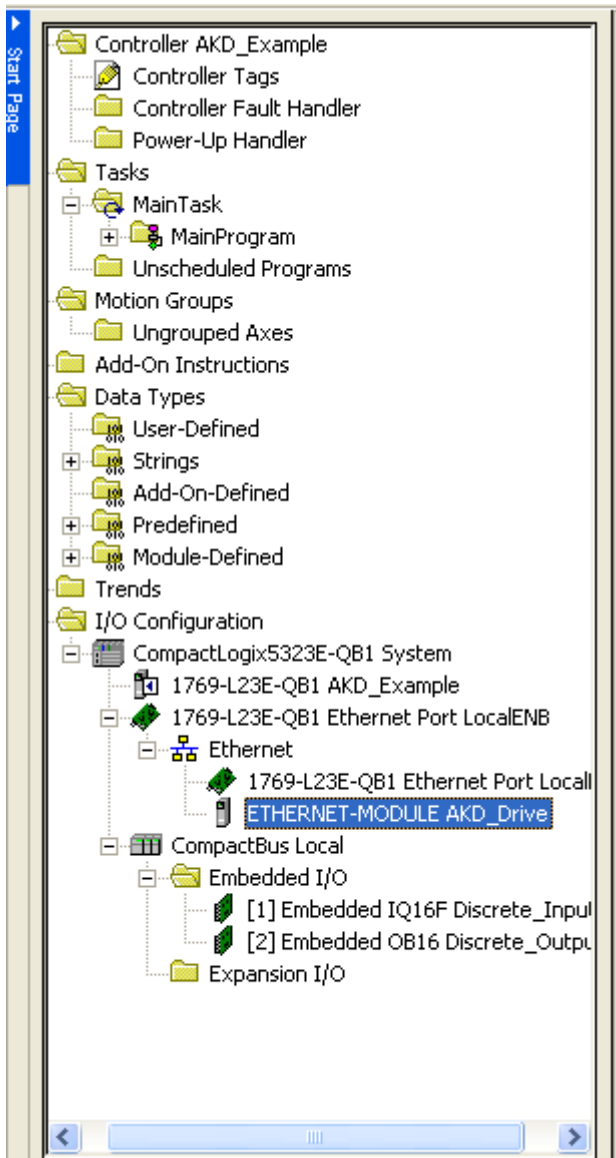

Figure 5-5: Module Successfully Added to Project
- The drive should now be configured and will show up under the Ethernet Port (Figure 5-5: Module Successfully Added to Project)